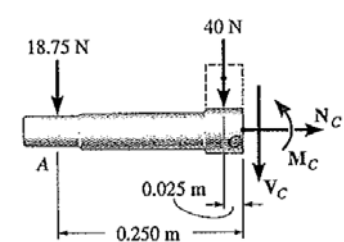

Figure 2.3
**Free-Body Diagram.** Passing an imaginary section perpendicular to the axis of the shaft through C yields the free-body diagram of segment AC shown in Fig. 2.3